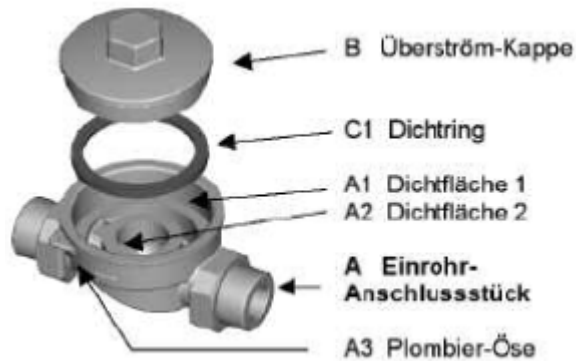

Fig. 5.2.1 Installation of F PolluCom® F/S C X connector
5. Unscrew the overflow cap (B) from the single-pipe connector (A), remove the profile seal (C1) from the EAS and clean both sealing surfaces of the EAS (A1 and A2). (Fig. 5.2.1)